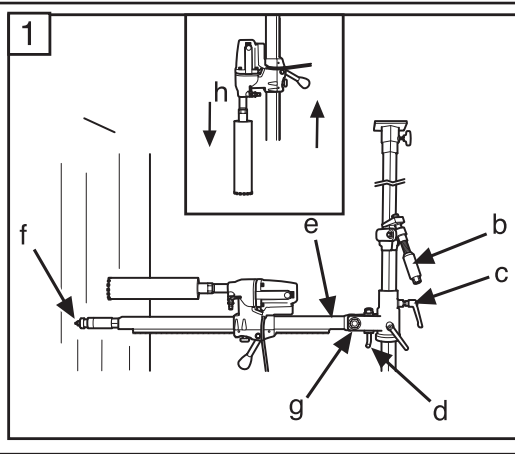

Fig. 7
5. Monte o motor de perfuradora DMS160 na coluna de perfuração (Fig. 7) (h).
3. Clamp the telescopic support column against the ceiling, choose the closest hole in the holed inner tube. Clamp using the support column handle (B) and screw the last bit using a 24 mm spanner, do not clamp too tight.
5. Install the drill motor DMS160 on the drill column (Fig 7) (h).